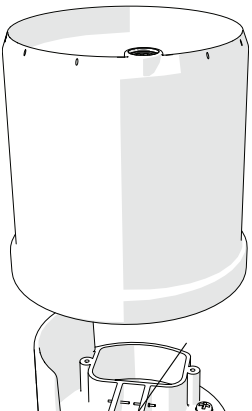

Figure 13 Downspout
- c. Check the downspout (Figure 13) for debris.